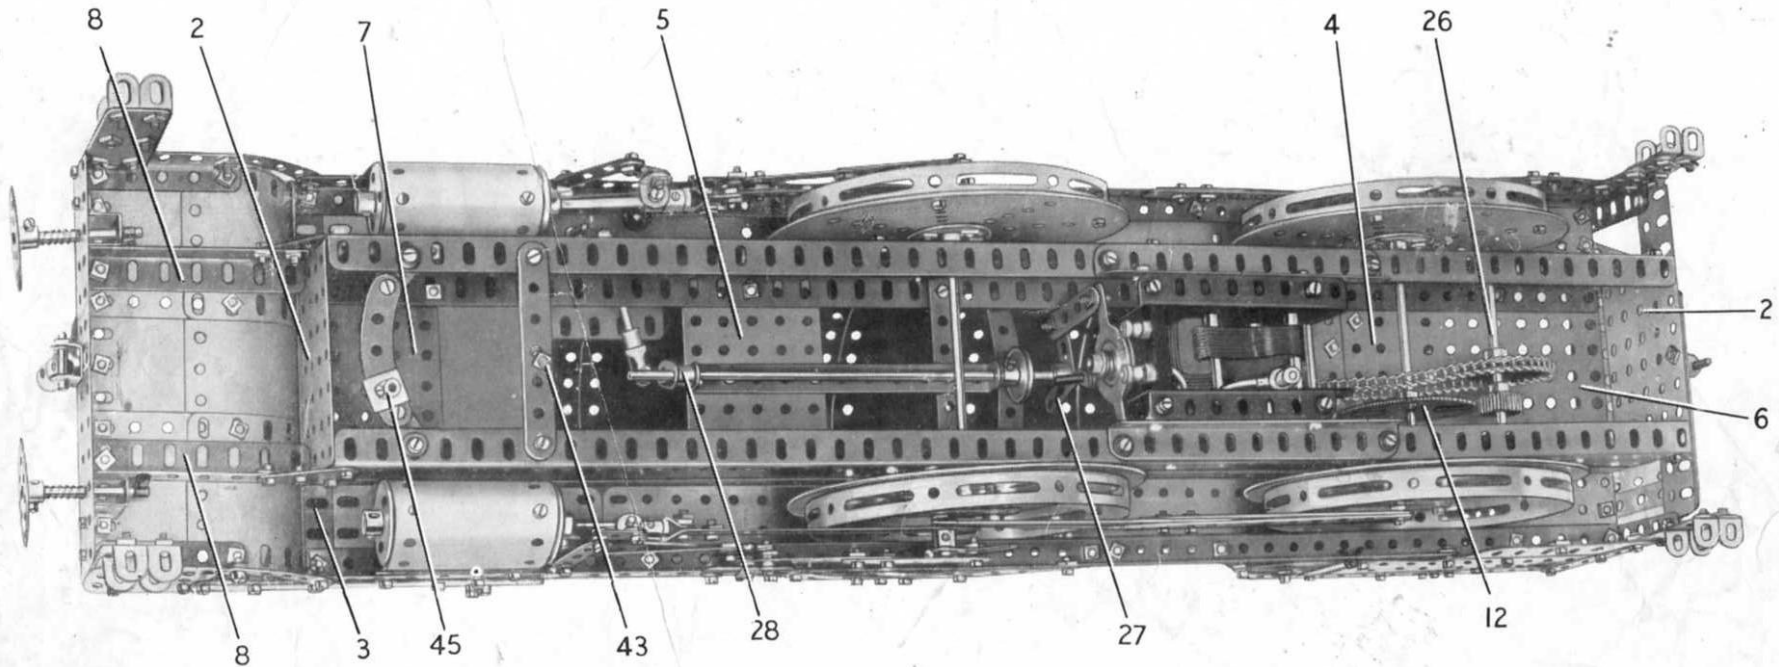
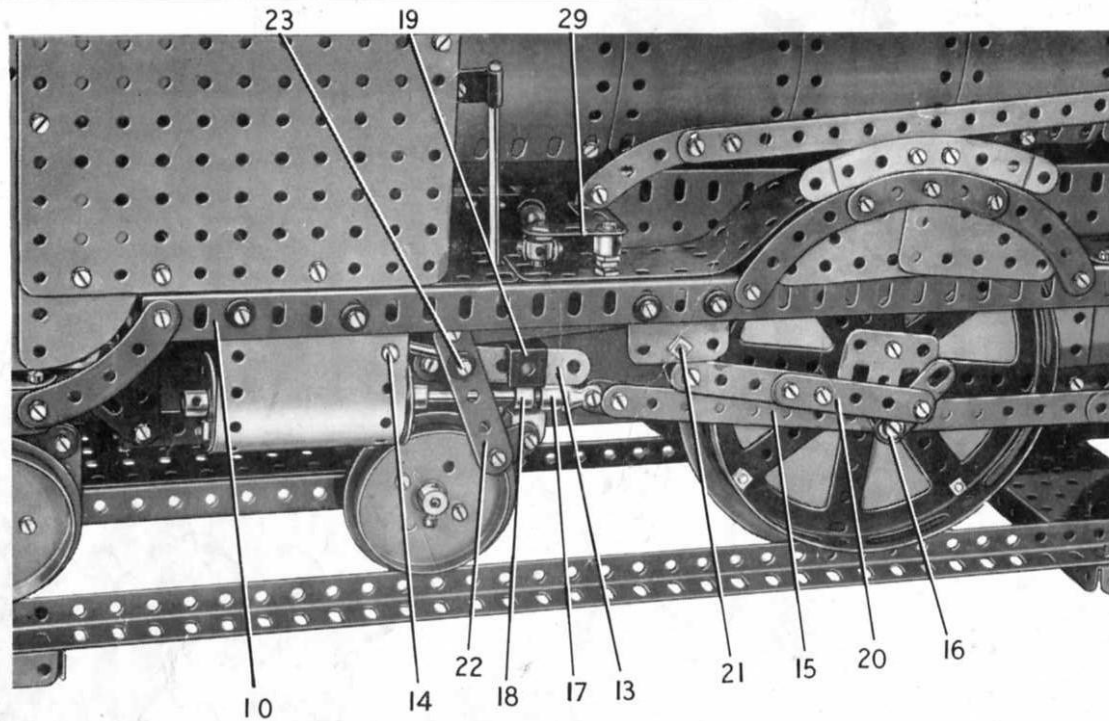
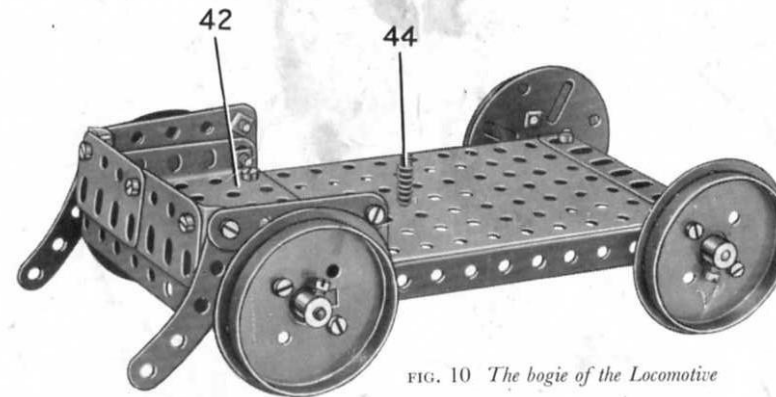

FIG. 2 Underneath view of the Locomotive showing details of the main frame and the driving arrangement
FIG. 4 A close-up picture of the valve motion and cylinder assembly
FIG. 10 The bogie of the Locomotive
### Building the Model: The Main Frame and Running Plates (Figs. 2, 3 and 4)
The side-members are joined together at each end by  $3\frac{1}{2}$ "  $\times$   $2\frac{1}{2}$ " Flanged Plates (2) (Fig. 2), the front one of which carries a built-up girder (3) made
The running plate on each side is made by bolting a  $24\frac{1}{2}$ " Angle Girder (10) (Fig. 4) to the girder (3) and to  $2\frac{1}{2}$ " Flat Girders fixed to the Flat Plate (6). Two  $2\frac{1}{2}$ "  $\times$   $1\frac{1}{2}$ " Flexible Plates and three  $5\frac{1}{2}$ "  $\times$   $1\frac{1}{2}$ " Flexible Plates are attached as shown to the Girder (10), and are curved to form the wheel splashers. The sides of the splashers over the leading driving wheels are each made from two  $2\frac{1}{2}$ "  $\times$   $1\frac{1}{2}$ " Triangular Flexible Plates and three  $2\frac{1}{2}$ " Curved Strips. The nameplate is represented by a 4" Stepped Curved Strip bolted to a 1" Triangular
from a  $5\frac{1}{2}$ " and a 2" Angle Girder overlapped two holes. Two further  $3\frac{1}{2}$ "  $\times$   $2\frac{1}{2}$ " Flanged Plates (4) and (5) are fixed across the main frame (Fig. 2), and a  $5\frac{1}{2}$ "  $\times$   $2\frac{1}{2}$ " Flat Plate (6) is bolted across the rear end. A  $5\frac{1}{2}$ "  $\times$   $3\frac{1}{2}$ " Flat Plate fixed to the Flanged Plate (4) and the Flat Plate (6), forms the footplate. A  $3\frac{1}{2}$ "  $\times$   $2\frac{1}{2}$ " Flanged Plate (7) (Fig. 3) is attached to the front end of the main frame by Angle Brackets and a  $3\frac{1}{2}$ "  $\times$   $\frac{1}{2}$ " Double Angle Strip.
At the front the main frame is extended forward by two  $3\frac{1}{2}$ " Angle Girders (8) (Fig. 2), which are fixed to  $1\frac{1}{2}$ " Corner Brackets. The front ends of the Girders (8) are connected by a built-up girder (9) (Fig. 3) made from a  $5\frac{1}{2}$ " Angle
The dropped section of the frame at the front (Fig. 3) is plated by three  $1\frac{1}{8}$ " radius Curved Plates and three  $2\frac{1}{2}$ "  $\times$   $2\frac{1}{2}$ " Flexible Plates bolted between the girders (3) (Fig. 2) and (9) (Fig. 3). The outer  $2\frac{1}{2}$ "  $\times$   $2\frac{1}{2}$ " Flexible Plates are edged by  $2\frac{1}{2}$ " Angle Girders, and these are connected to the Girders (10) (Fig. 4) by  $2\frac{1}{2}$ " Curved Strips. The steps are Angle Brackets fixed to  $2\frac{1}{2}$ " Flat Girders, which are supported by the  $2\frac{1}{2}$ " Angle Girders.
#### Driving Wheels and Motion (Figs. 2, 4 and 6)
Each of the main driving wheels consists of a Hub Disc bolted to a 6" Circular Plate, at the centre of which a Bush Wheel is bolted. The wheels are fixed in pairs on 5" Rods supported in the main frame (see Fig. 2), and at each end of each Rod a Double Arm Crank is held by its grub screw. A Flat Trunnion is fixed to each Double Arm Crank by a  $\frac{1}{2}$ " Bolt, which passes also through a hole in the wheel (see Fig. 4). The Flat Trunnions form the crank assemblies. A  $2\frac{1}{2}$ " Gear (12) (Fig. 2), is fixed on the rear 5" Rod.
The Strip (15) is extended by a Fishplate that is *lock-nutted* to an End Bearing (17) (Fig. 4) on a  $3\frac{1}{2}$ " Rod. This Rod slides freely in the Flanged Wheel forming the rear cover of the cylinder, and on it a Collar (18) is fixed. A  $\frac{3}{4}$ " Bolt is then passed through the lugs of a Double Bracket (19) and is screwed into a hole in the Collar, so that the Double Bracket is able to slide freely on the slide bar (13).
#### Arrangement of the Motor and Reduction Gearing (Figs. 2, 4, 5 and 6)
The E20R Electric Motor used to drive the model is attached by Angle Brackets to two  $5\frac{1}{2}$ " Angle Girders bolted underneath the main frame (Fig. 5). A  $\frac{1}{2}$ " Pinion on the Motor shaft drives a 57-tooth Gear on a  $2\frac{1}{2}$ " Rod (24), which is passed through the Motor side-plates. A  $\frac{1}{2}$ " Pinion on Rod (24) is meshed with another 57-tooth Gear on a 2" Rod (25). This Rod also is supported in the side-plates, above Rod (24), and it carries a  $\frac{3}{4}$ " Sprocket connected by Chain to a 2" Sprocket on a 4" Rod (26). A  $\frac{3}{4}$ " Pinion on Rod (26) engages the  $2\frac{1}{2}$ " Gear (12) (Fig. 2) on the rear driving axle.
A 2" Strip is lock-nutted to one arm of the Motor switch and to a Bell Crank (27) (Fig. 2). The Bell Crank is fixed on an 8" Rod supported in a  $5\frac{1}{2}$ "  $\times$   $\frac{1}{2}$ " Double Angle Strip bolted to the Flanged Plate (5) and to a  $3\frac{1}{2}$ " Strip placed across the main frame. The Rod carries a Crank (28), and a Swivel Bearing is pivoted on a  $\frac{1}{2}$ " Bolt fixed in this Crank by two nuts. The Swivel Bearing is mounted on a 2" Rod fitted at its other end with a second Swivel Bearing, and this is pivotally attached to a Bell Crank (29) (Fig. 6) by a  $\frac{1}{2}$ " Bolt that is fixed by two nuts. The Bell Crank is freely mounted on a  $\frac{3}{4}$ " Bolt, and
is held against the head of the Bolt by two nuts screwed against each other (see Fig. 4). The Bolt is then fixed in the running plate by two nuts.
At its front end the boiler is bolted to the Flanged Plate (7) (Fig. 3) and at the rear is supported by a Double Bent Strip fixed to the Flanged Plate (4) (Fig. 2). The chimney consists of three  $1"$  loose Pulleys and two Wheel Discs held in place by a  $\frac{3}{4}"$  Bolt. A Rubber Ring is fitted to each Pulley.
A 12½" Flat Girder (33) (Fig. 1) on each side is fixed to the flanges of the Flanged Plates (5) and (4) (Fig. 2).
The footplate is extended by a 4½" × 2½" Flat Plate (37), fitted at each end with a 2½" Strip and at the back with a 5½" Strip. The 5½" Strip is connected to the Plate (6) (Fig. 2) by two ½" Bolts, but is spaced from the Plate by a Cord Anchoring Spring on each Bolt.
#### Construction of the Bogie (Fig. 10)
The bogie is made by bolting a  $5\frac{1}{2}$ "  $\times$   $3\frac{1}{2}$ " Flat Plate and a  $3\frac{1}{2}$ "  $\times$   $2\frac{1}{2}$ " Flanged Plate (42) (Fig. 10) to a  $7\frac{1}{2}$ " Angle Girder on each side. A  $3\frac{1}{2}$ " Angle Girder is bolted to one end and a  $3\frac{1}{2}$ "  $\times$   $\frac{1}{2}$ " Double Angle Strip is fixed to the other end. A  $2\frac{1}{2}$ "  $\times$   $1\frac{1}{2}$ " Flexible Plate is attached to each flange of the Plate (42) and is edged by a  $2\frac{1}{2}$ " Strip and fitted with a  $2\frac{1}{2}$ " Curved Strip arranged as shown. At the front two 2" Flat Girders are bolted together and are attached to the Flexible Plate by Angle Brackets. The bogie wheels are Wheel Flanges and Face Plates bolted together, and they are fixed on 5" Rods. Each of the Rods is held in place by two Collars.
The bogie is *lock-nutted* on a  $1\frac{1}{8}$ " Bolt (43) (Fig. 2), which passes through a  $3\frac{1}{2}$ " Strip bolted across the main frame. A  $\frac{3}{4}$ " Bolt (44) (Fig. 10) is passed through the bogie and on it is placed a Compression Spring. The Bolt is then fixed in a Slide Piece (45) (Fig. 2), which is carried on a  $2\frac{1}{2}$ " Curved Strip attached to the main frame by Fishplates.